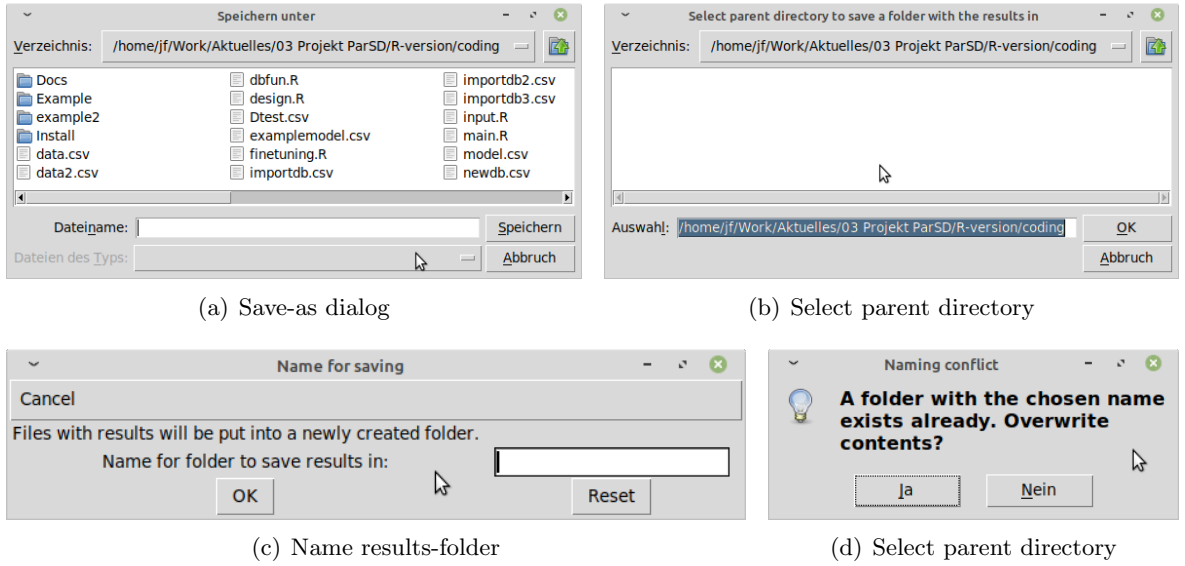

Figure 2: Save results
- Recipe, which is a subset database containing the materials used for the present calculation. Has to be saved as CSV file in the Save-As window (Figure 2(a)).
- Batch, which is the table shown in the results window giving the contents of the materials. Has to be saved as CSV file in the Save-As window (Figure 2(a)).
- Model/Comparison, which is the lower part of the results-window including information to the model (type and parameters). Has to be saved as CSV file in the Save-As window (Figure 2(a)).
- Graph, as adjusted and displayed by the 'Open/close plot' button. Has to be saved as PNG file in the Save-As window (Figure 2(a)).
- complete results (recipe, batch, model/comparison & plot). In this case, a folder will be created into which the four files will be put. The user is, thus, asked to give the parent folder into which the new results folder should be placed (Figure 2(b)) and then to give a name for the results folder (Figure 2(c)). If a folder with this name already exists, the user is informed but can decide to overwrite the contents (Figure 2(d)).